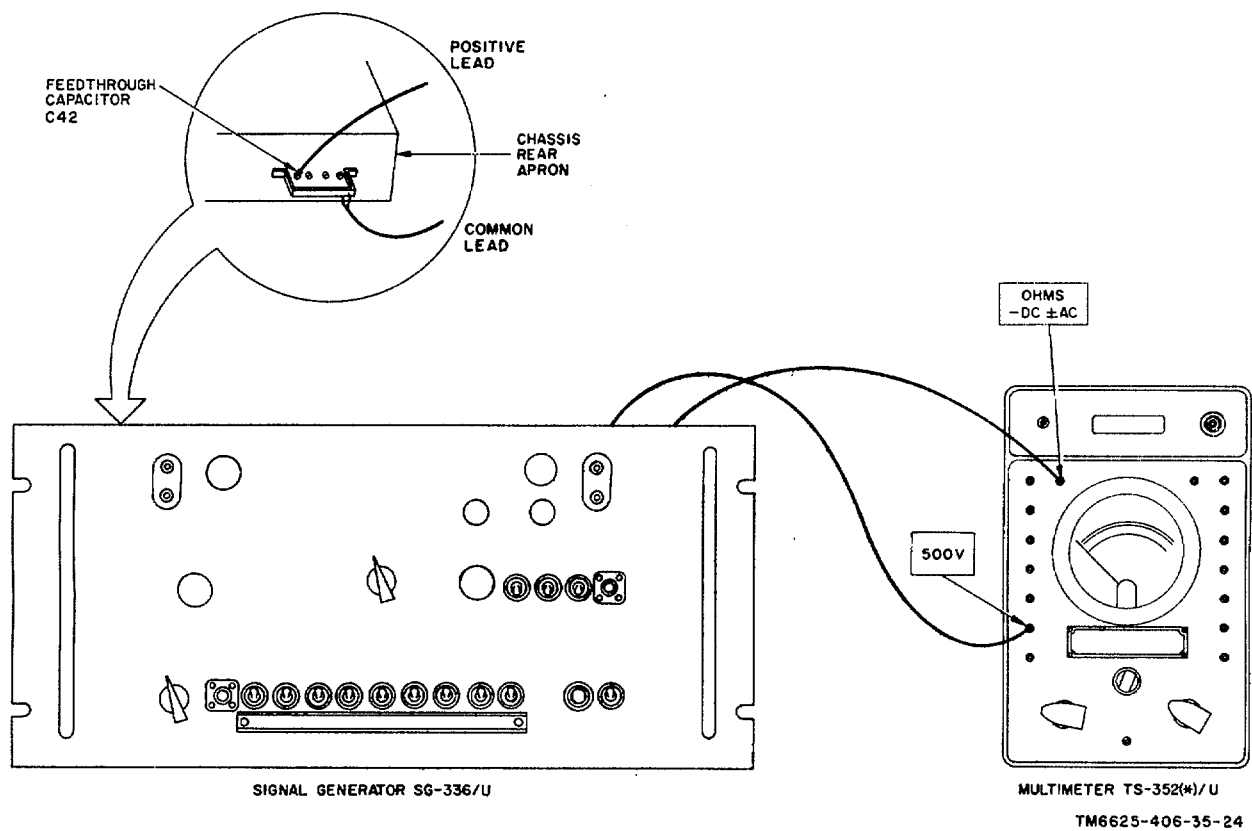

Figure 19. Power supply output voltage test connections.
- b. Test Connections and Conditions. Connect the equipment as shown in figure 19.